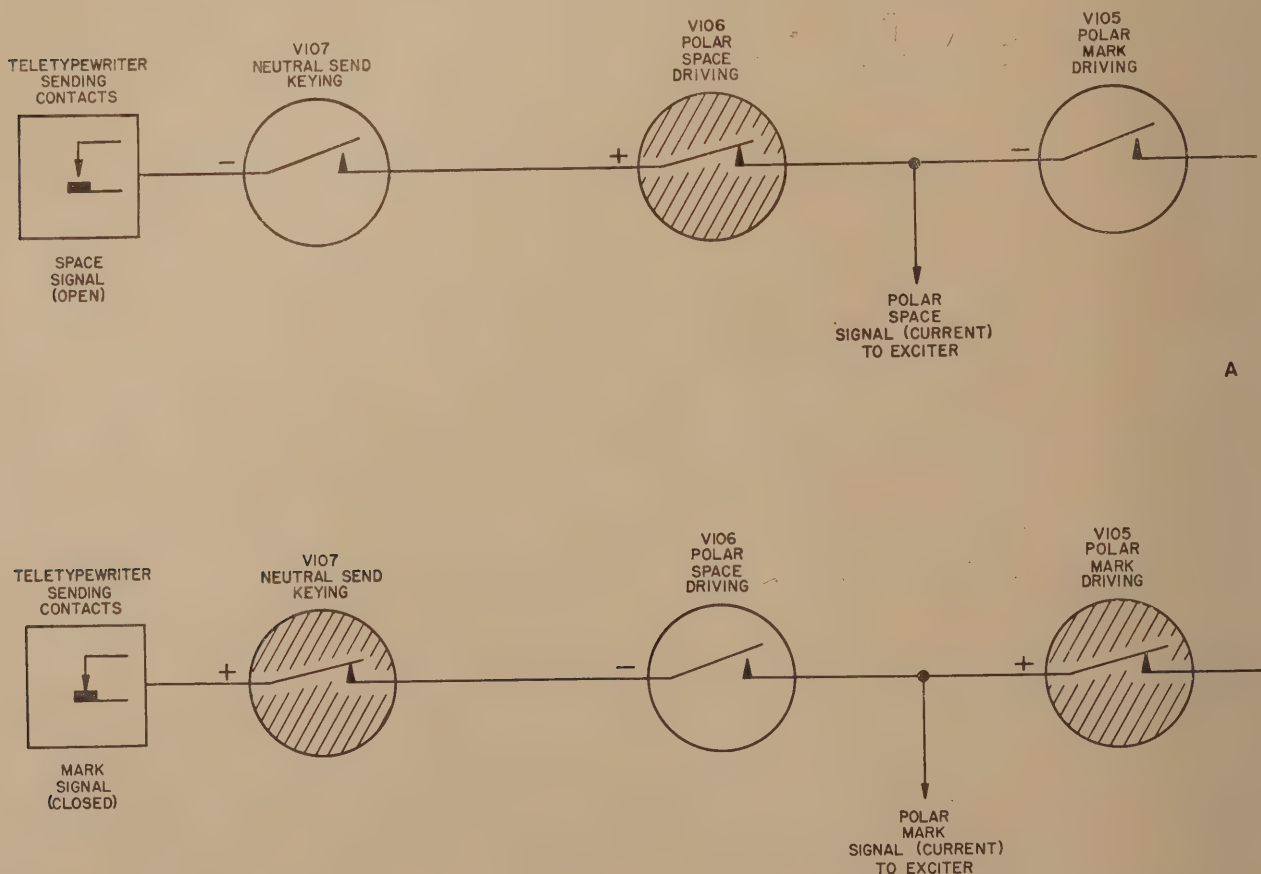

Figure 15. Sending circuit, sequence of tube operation.
### 31. Sending Circuit Signal Path (fig. 15)
b. The tubes of the sending circuit (V105, V106, and V107) operate in the same *on-off* fashion as those of the receiving circuit. Figure 15 shows the sequence of sending-circuit tube operation for an input-space signal and for an input-mark signal. When a neutral-space signal is transmitted by the teletypewriter sending contacts (contact open), a high negative voltage appears at the grid of V107, cutting that tube off. When V107 is nonconducting, a positive voltage is applied (from the plate network of V107) to the grid of polar-space driving tube V106, which conducts and produces spacing signal current in the send line to the exciter. At the same time, V106 plate current cuts polar-mark driving tube V105 off, making it inoperative.